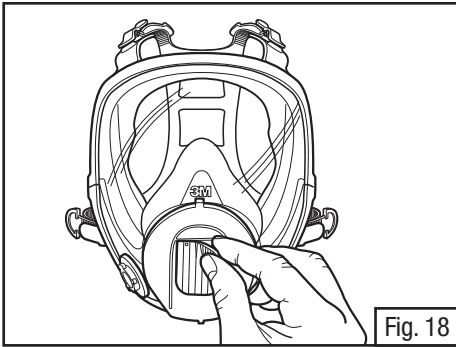

Fig. 18
2. Grasp valve and pull each valve stem out from valve seat (Fig. 18).